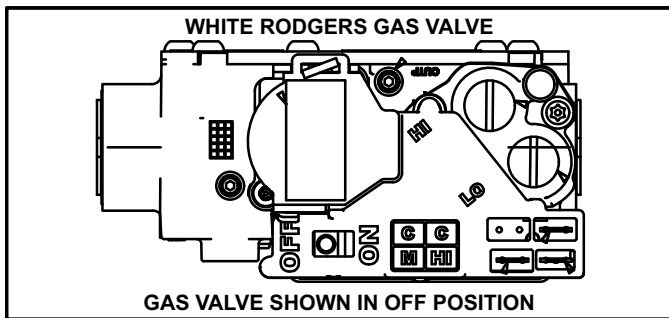

FIGURE 2
### Operating the Gas Valve (Figures 2 and 3)
- 6 - Move switch on gas valve to **OFF**. Do not force. See figure 2 or 3.
- 8 - Move switch on gas valve to **ON**. Do not force. See figure 2 or 3.